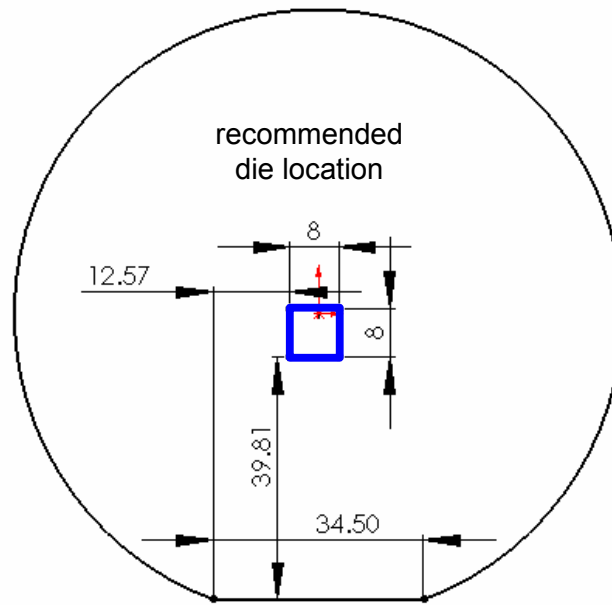
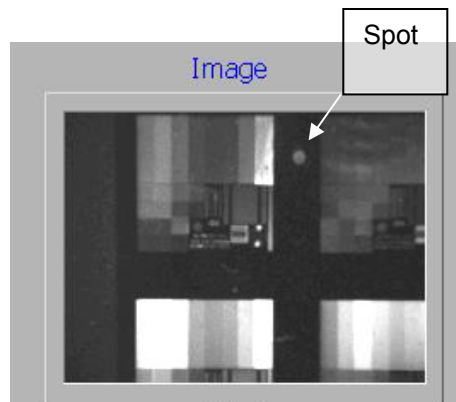

Figure 1
Figure 2
- 9.4.3 The IR measurement spot should show as a faint dot on the wafer (see Figure 2). Ideally, the features to be measured should be located in the region on the wafer shown in Figure 1. The diameter of the laser dot is roughly 1000 μm .